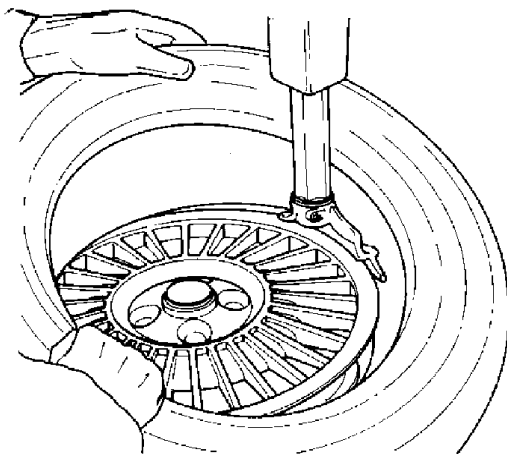

Fig.20
**B.** Lock the rim to the turntable and rotate it so that the valve is at the 2 o'clock position. Place the tire to be mounted on the rim. Swing the mount/demount arm in so that the mount/demount head is in the working position. (Fig. 20) Engage the lower bead OVER the mount/demount head and UNDER the mounting finger of the mount/demount head (Fig.20). Turn the wheel clockwise (right pedal down) while simultaneously pushing the tire down into the drop center, opposite to the mount/demount head.